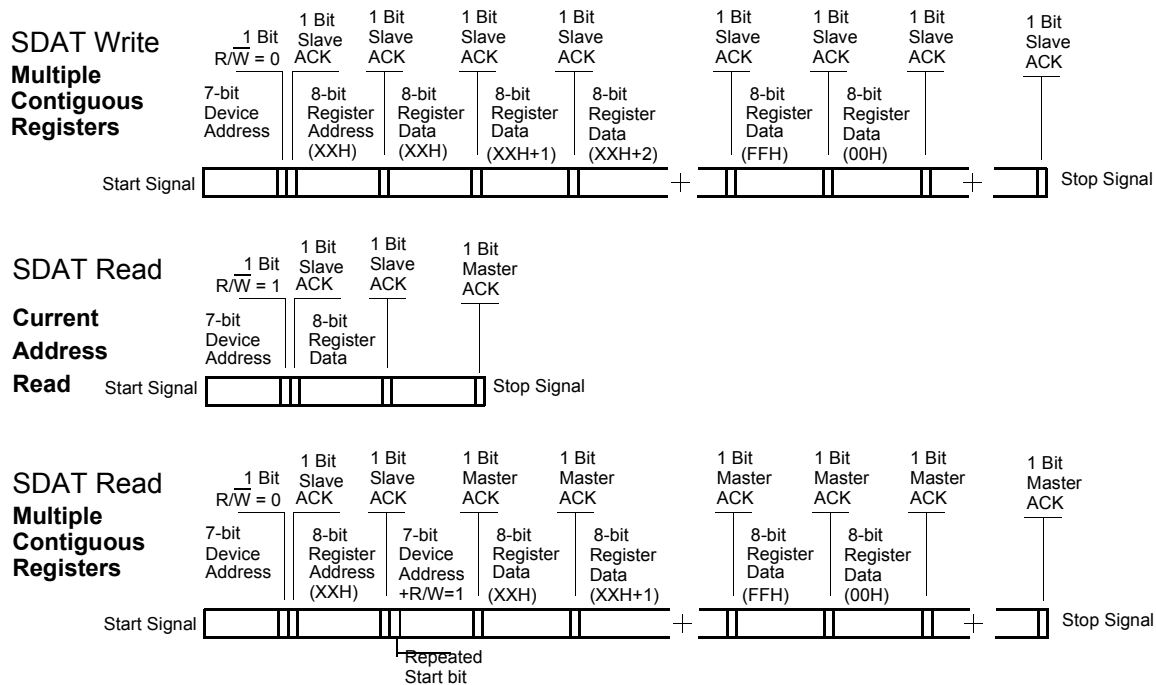

Figure 2. Data Frame Architecture
Start Bit; 7-bit Device Address (DA); $\overline{R/\overline{W}}$ Bit; Slave Clock Acknowledge (ACK); 8-bit Memory Address (MA); ACK; 8-bit Data; ACK; 8-bit Data in MA+1 if desired; ACK; 8-bit Data in MA+2; ACK; etc. until STOP Bit. The basic serial format is illustrated in *Figure 2*.